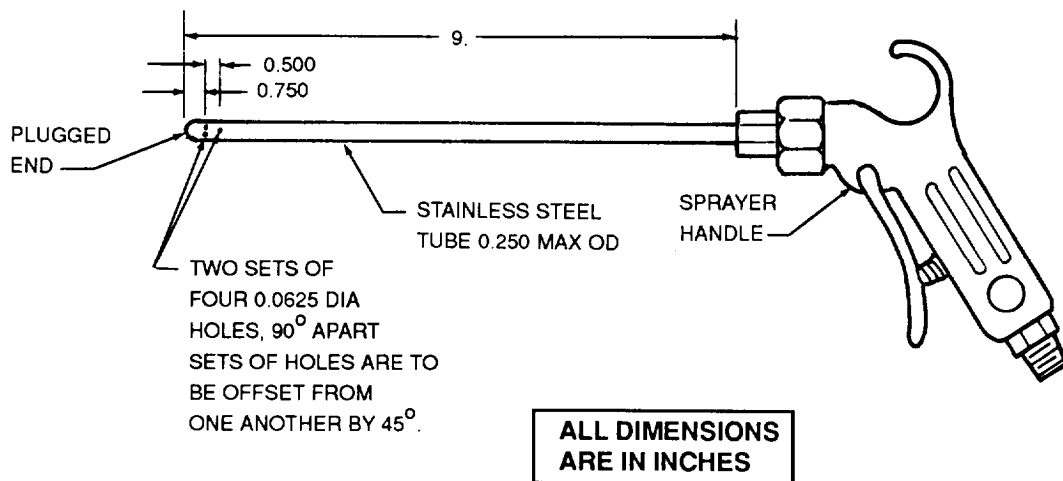
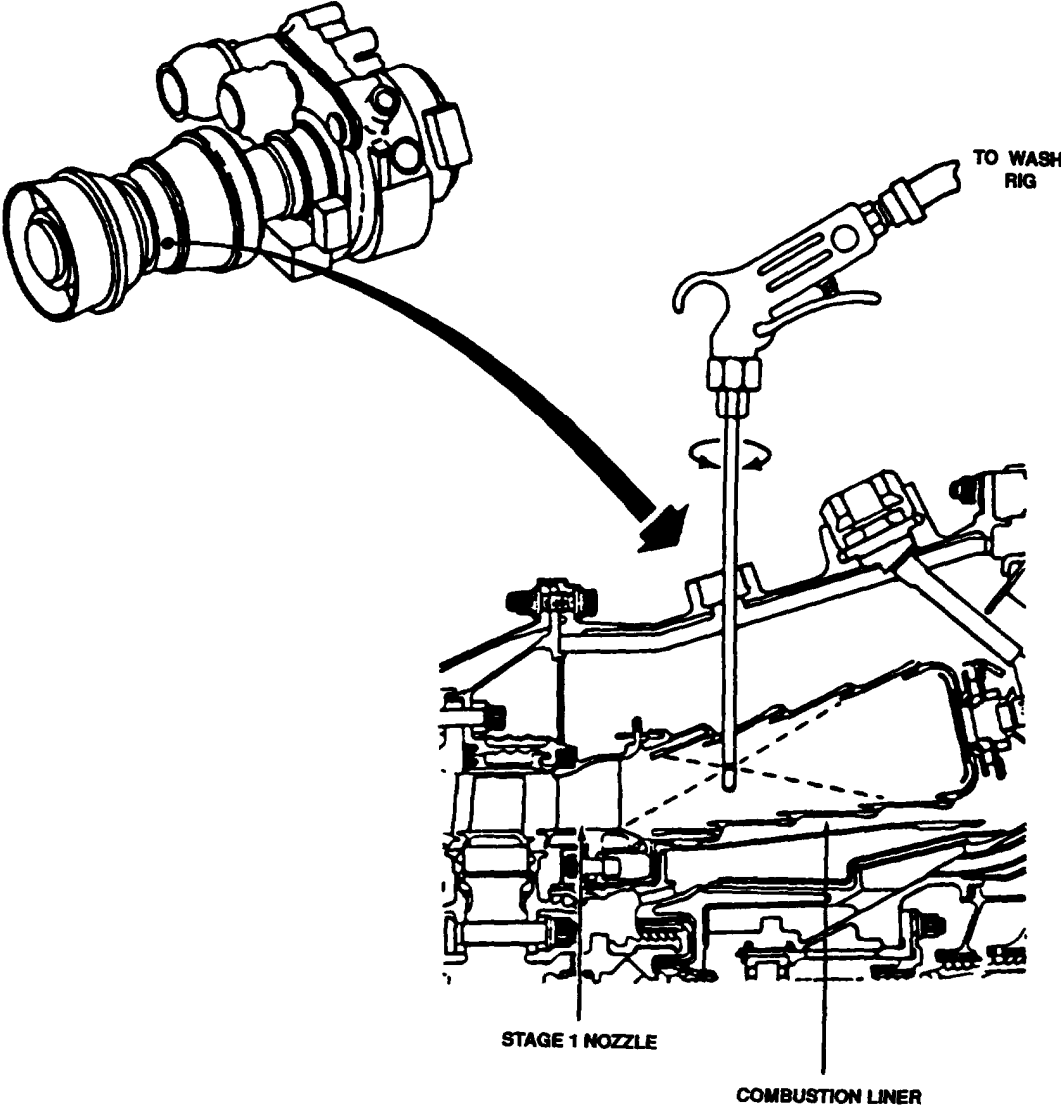

Figure 5. Hot Section Module Sprayer LMT 777.
Figure 6. Washing Combustion Liner and Stage 1 Nozzle.
b. In order to wash the hot section area, it is necessary to use a sprayer LMT 777 (fig. 5). The sprayer can be inserted into the combustion liner through the 4 or 8 o'clock igniter plug ports.
(1) Fill water-wash supply tank with cleaning solution. Attach sprayer to supply line.
(2) Remove either the 4 or 8 o'clock igniter plug.
(3) Insert sprayer into combustion liner (through either 4 or 8 o'clock igniter port) (fig. 6).
(4) Spray-wash entire interior of combustion liner and stage 1 nozzle surfaces for a minimum of 30 seconds by rotating sprayer 360 degrees.